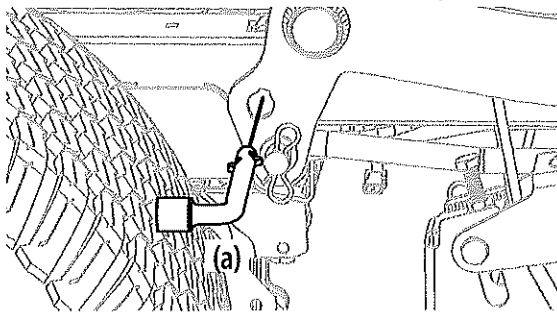

Figure 43
- 5. On tractors equipped with the deck lift knob, use the deck lift pedal and deck lift knob to place the deck in the lowest position and use the multi-tool (a) to lock the deck lift components in place as shown in Figure 43. On tractors with a deck lift handle, lower the deck into the lowest position.